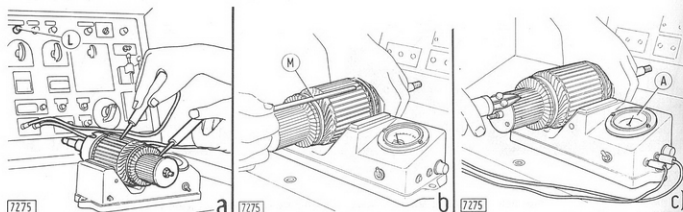

Fig. 257 - Checking Armature Insulation (a), Conductors (b) and Winding (c)
4. Armature winding and commutator-to-yoke insulations for breakdown (see a, Fig. 257), winding conductors and commutator laminations for S/C (see b), and the assembly for O/C (see c).